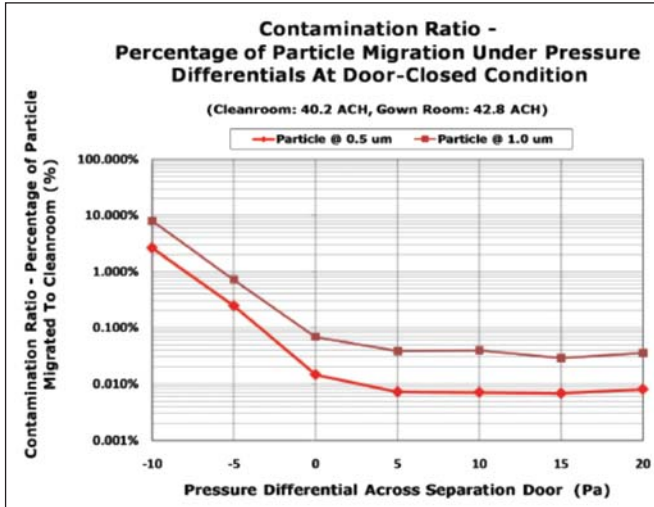

Figure 6: CR values across a closed door under pressure differential (ASHRAE Design Guide for Cleanrooms)
The risk level of particle contamination can be expressed as *contamination rate* (CR) (Sun *et al.*, 2011). CR is defined as the airborne particle concentration gain above the initial concentration in a clean space over the particle concentration in the adjoining less clean space that is the source of the contamination. CR is a criterion to quantify the effectiveness of a cleanroom barrier in preventing particle migration into the clean space. The lower the CR level, the better the performance of the barrier's effectiveness. A typical contamination ratio study is given in Figure 6.